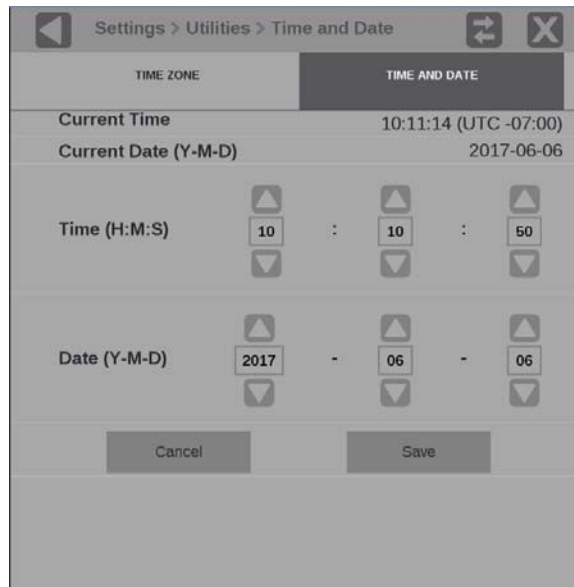

Figure 78: Time and Date submenu
6. In the TIME AND DATE tab, adjust the time and date using the up and down arrows to adjust each parameter as needed. (See Figure 78.) The time setting uses a 24 hour clock, so no AM/PM setting is required.